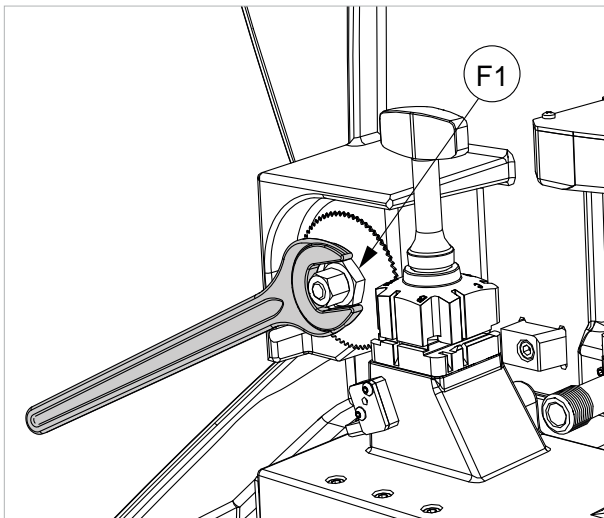

Fig. 42
- 3) Use a 19mm wrench (provided) to hold still the hex washer (F1) (Fig. 42).